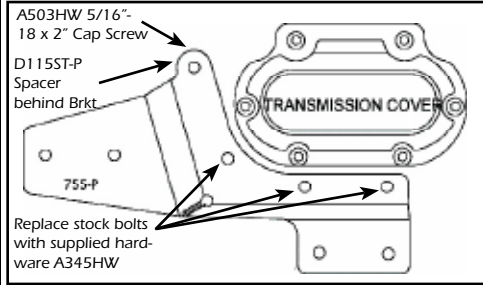

FIGURE 6
9. Install circlips and flanges from stock system onto the new header pipes (Figure 6).